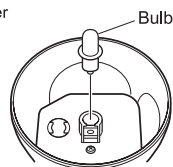

Fig. 4
b. Replace the bulb. (Fig. 4) (A spare bulb is set in the head.)